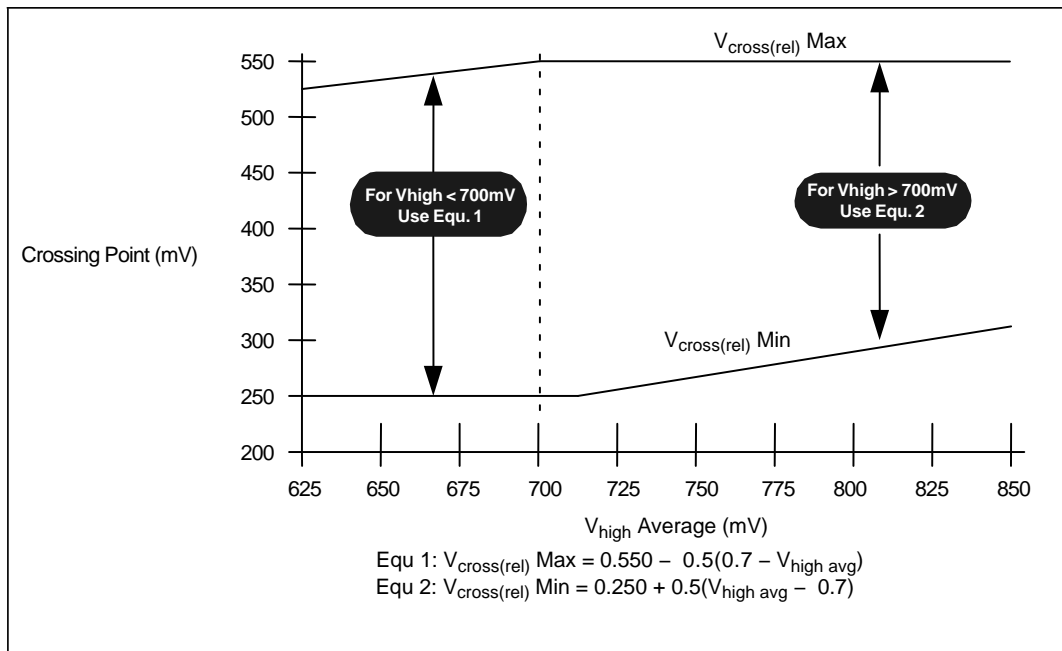

Figure 16. V_{cross} Range Clarification (Note 40)
16. $V_{\text{cross}}(\text{rel})$ Min and Max are derived using the following, $V_{\text{cross}}(\text{rel})$ Min = $0.250 + 0.5 (V_{\text{high avg}} - 0.700)$. $V_{\text{cross}}(\text{rel})$ Max = $0.550 - 0.5 (0.700 - V_{\text{high avg}})$. (see Figure 16 for further clarification).